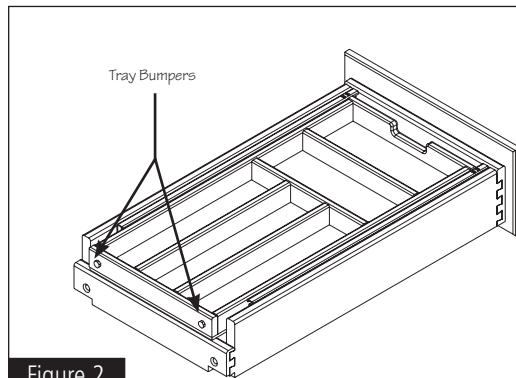

Figure 2
3 Attach two (2) Tray Bumpers to the back of the sliding tray (see Figure 2).